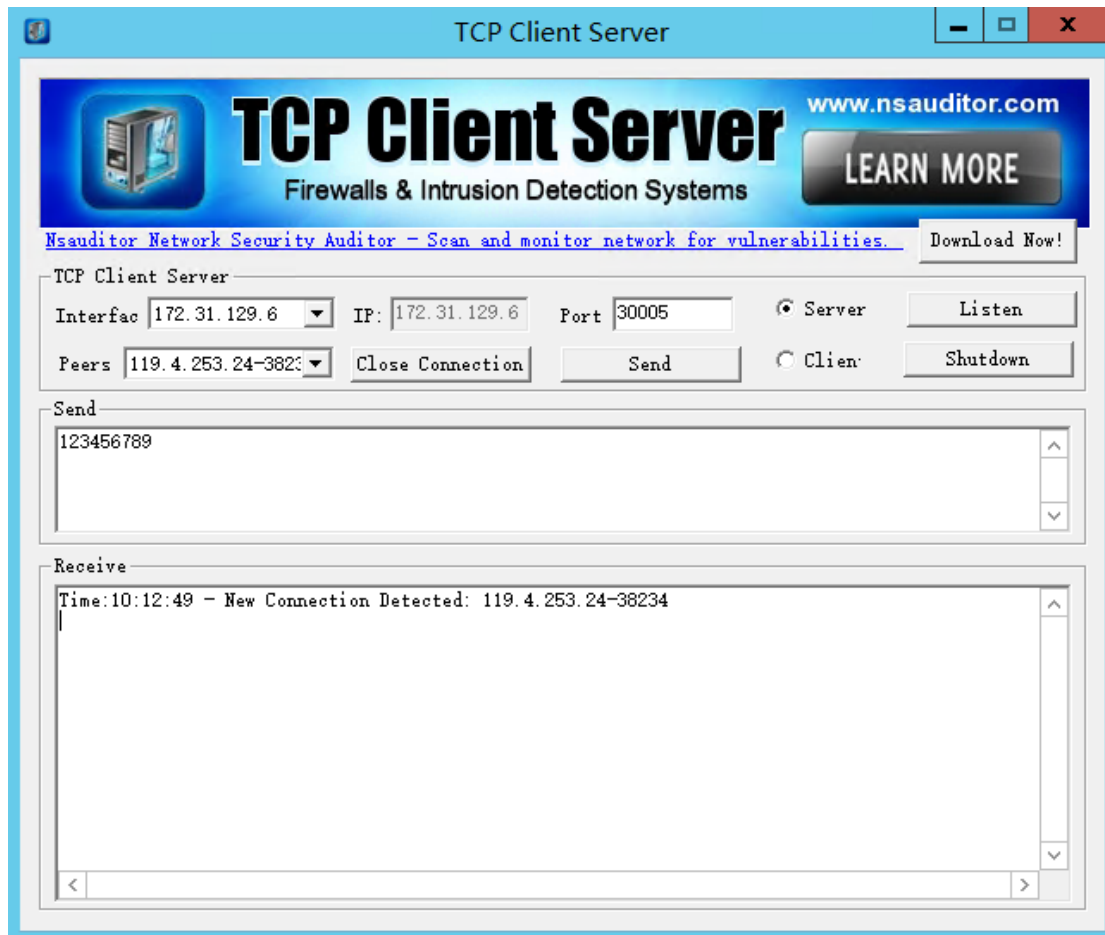

Figure 5-7 TCP Example 2
Step 3: You can see that the device is successfully connected on the TCP Client Server page. Enter content in the Send box and click Send, as shown in Figure 5-7. The center then sends data to the DTU.